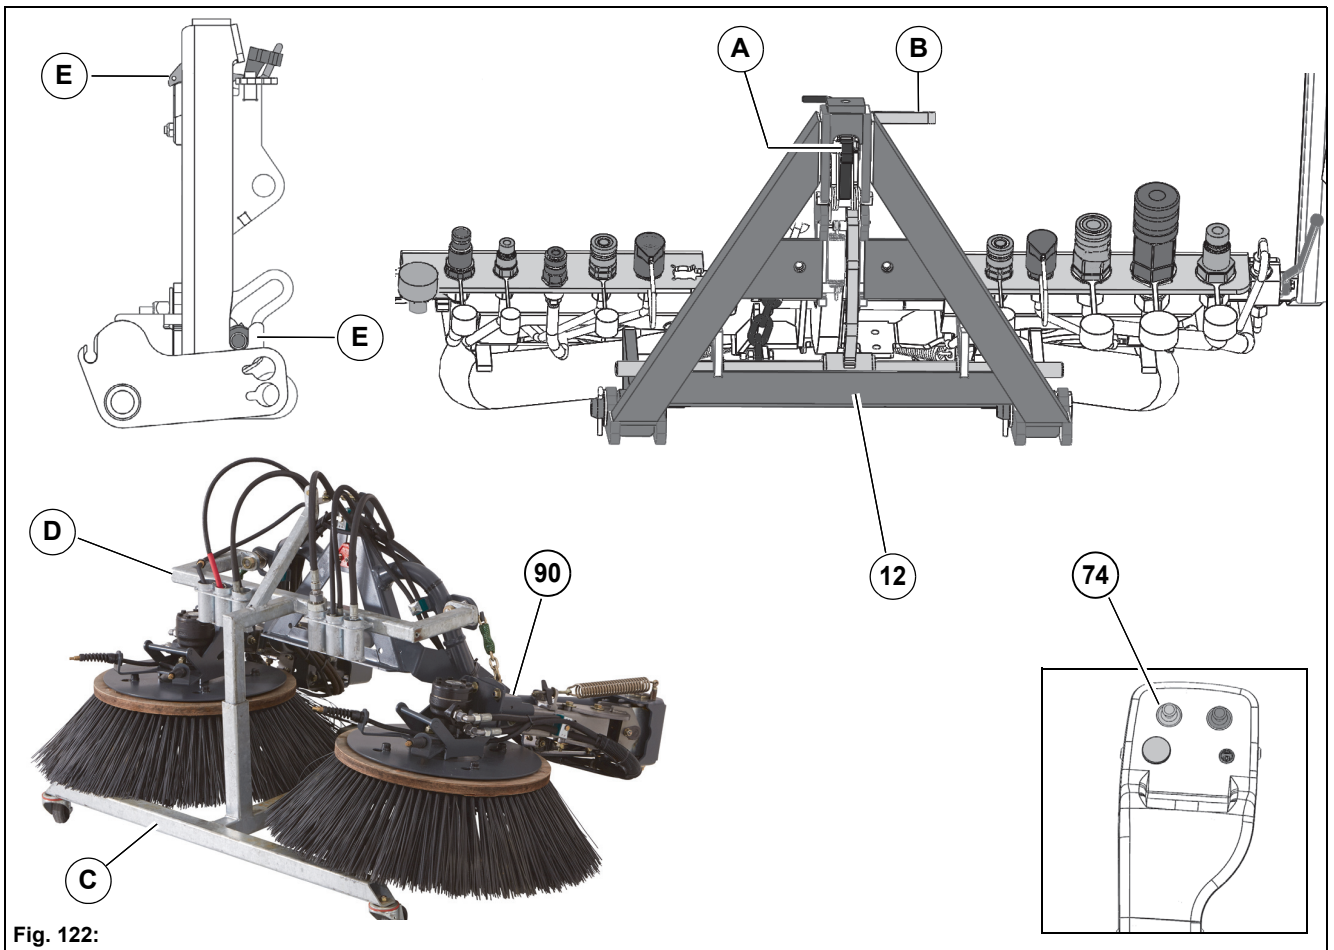

Fig. 122:
1. Unlock the locking hook **Fig. 122-A** and locking rod **Fig. 122-B** on the front tool carrier **Fig. 122-12**. Lower the front tool carrier with the joystick **Fig. 122-74**.
2. With the trolley **Fig. 122-C** (optional), align the sweeping unit **Fig. 122-90** centrally and in alignment with the front tool carrier.
5. Lock the sweeping unit with the locking hook and locking rod. Check the backlash on the locking hook, see **Fig. 122-E**, adjust if necessary with elongated holes.
6. Push down the upper part **Fig. 122-D** of the trolley and pull it out from the sweeping unit.